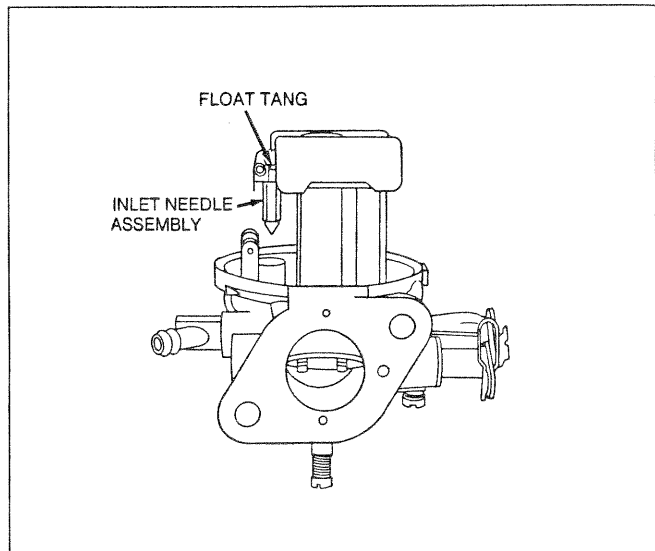

Figure 134. Float Installation
- Insert fuel inlet needle assembly onto float tang and place the assembly in the carburetor (Figure 134).